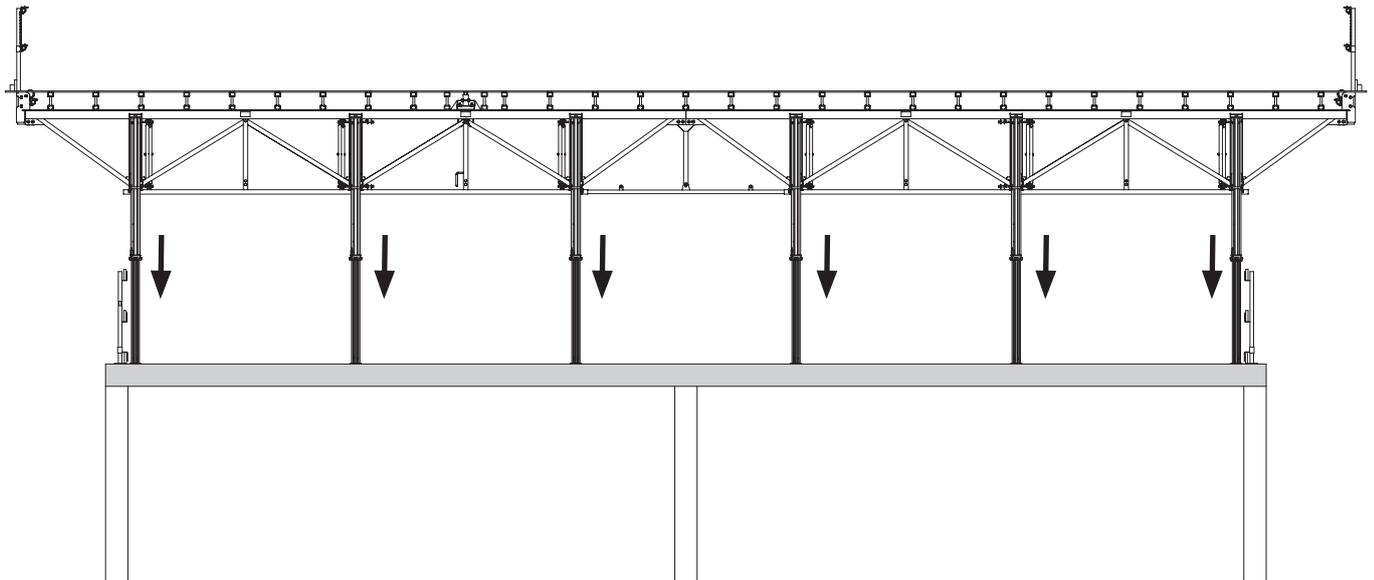

Fig. A6.23
6. Set up other tables in the same way, mount end-to-end guardrails, close infill areas and install stopend formwork. (Fig. A6.23)